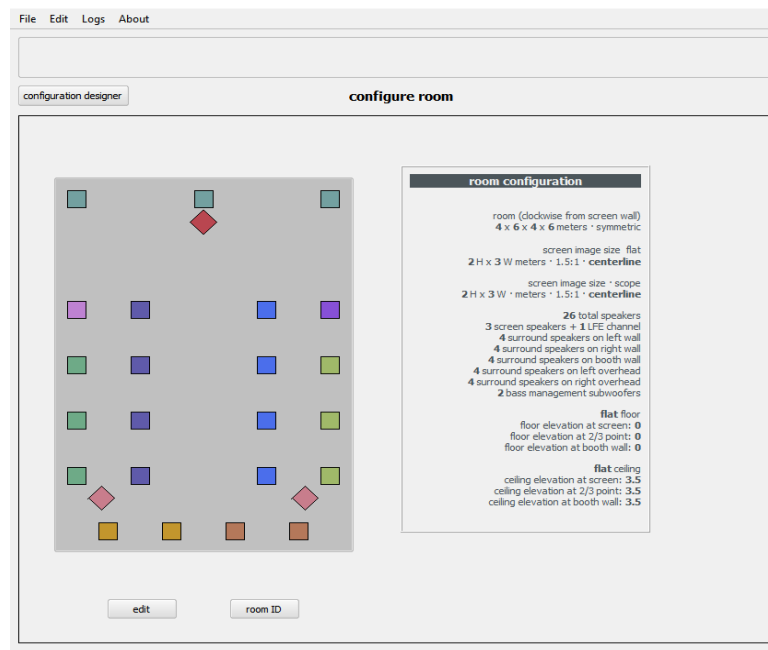

Figure 2-14 Room Configuration Summary
8. Click the **done** button at the bottom of the **configure room** screen. If your parameters are valid, the specified room configuration appears and the **done** button changes to an **edit** button, as shown in Figure 2-14. Clicking **edit** allows you to change any of your previously saved parameters.